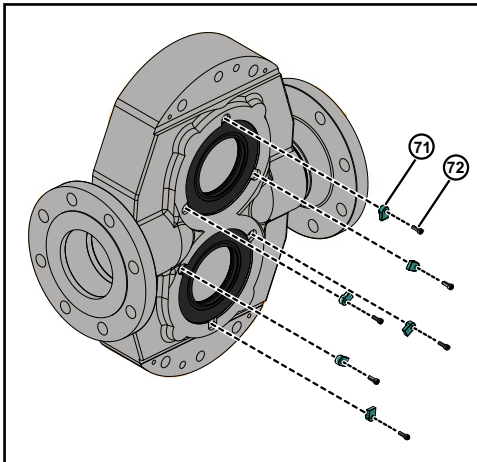

Figure 86 - Remove Screws and Retainer-tab
2. Remove all the retainer-tab bolts (72) and retainer-tabs (71) from the pump body, as shown in Figure 86. This is *applicable for model 180-370*.